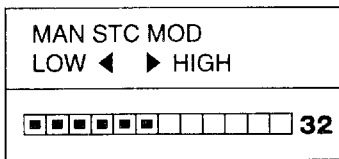

Figure 1-9 Dialogue for manual adjustment of STC
- Press the [STC] key to display the dialogue shown in Figure 1-9.